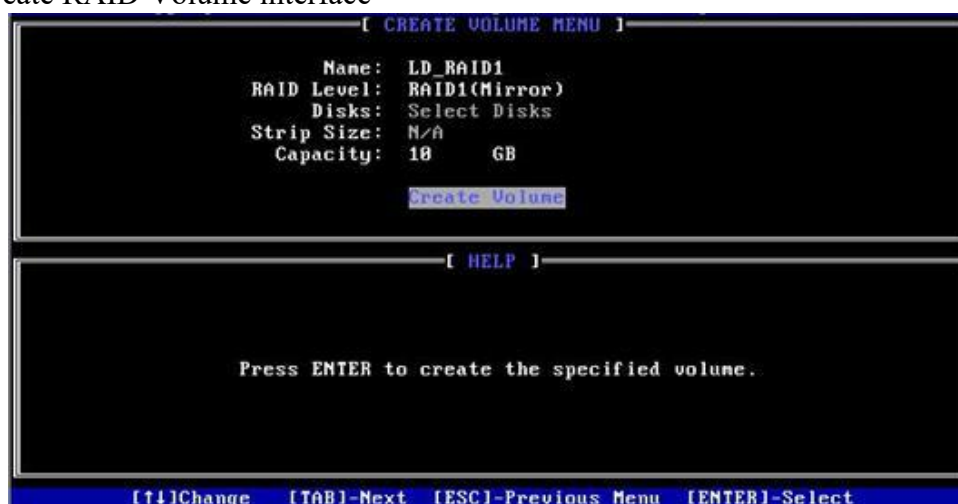

Fig. 6.18
- c) Enter Fig. 6.18, configure in Name, RAID Level, Disks, Strip Size and Capacity column (parameters description seen table 6.3), then select Create Volume, press Enter.
✧ Fig. 6.18 Create RAID Volume interface